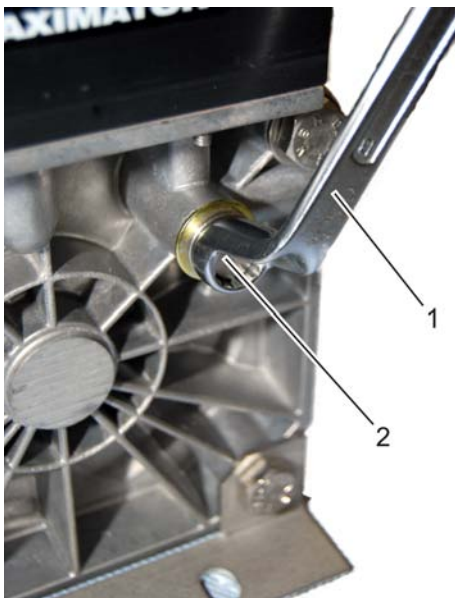

Fig. 48: Pilot valve
3. ➤ Position spanner (Fig. 48/1) at threaded union of pilot valve (Fig. 48/2).